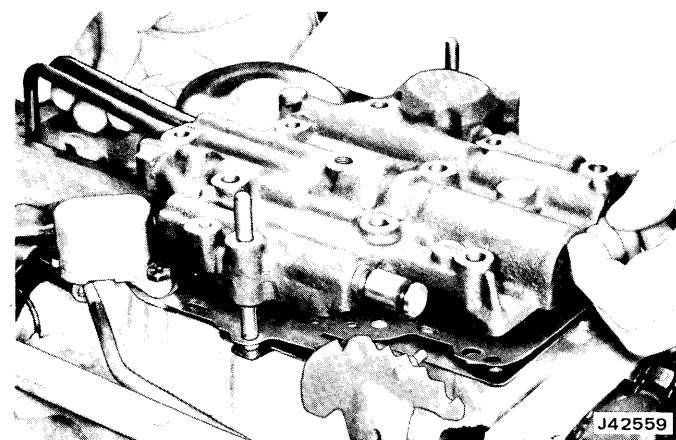

Fig. 7-141 Installing Control Valve
(1) Insert governor pipes into valve body and install governor screen in case.
(2) Install control valve and governor pipes (fig. 7-141).